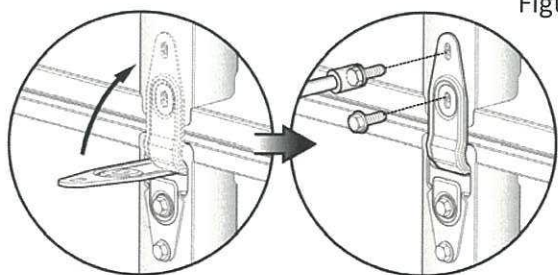

Figure 10
Once the section is in place, push up the upper leave(s) of the Center Hinge(s) and attach to the section above with (2) 1/4"x5/8" Universal Screws (Figure 10). Use holes V & W for single and double layer doors. Triple layer doors may not be marked, but will line up with the holes in the Center Hinge.
Step 10: Attach the Cable Adjustment Clip to the loose end of the Lifting Cable (Fig 10).